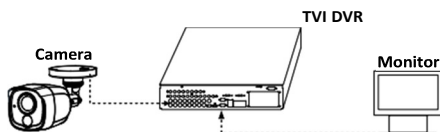

Figure 3-1 Connection
1. Connect the camera to the TVI DVR and the monitor, shown as the figure 3-1.